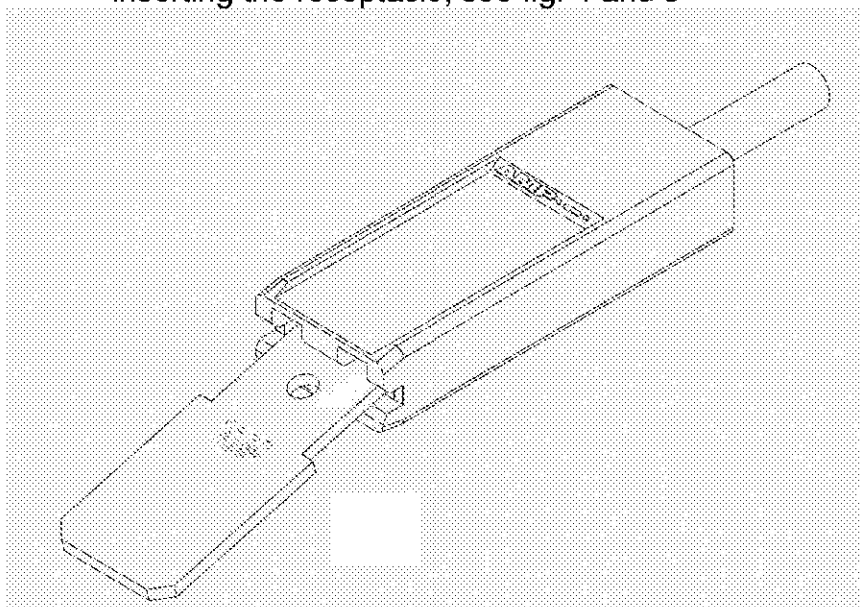
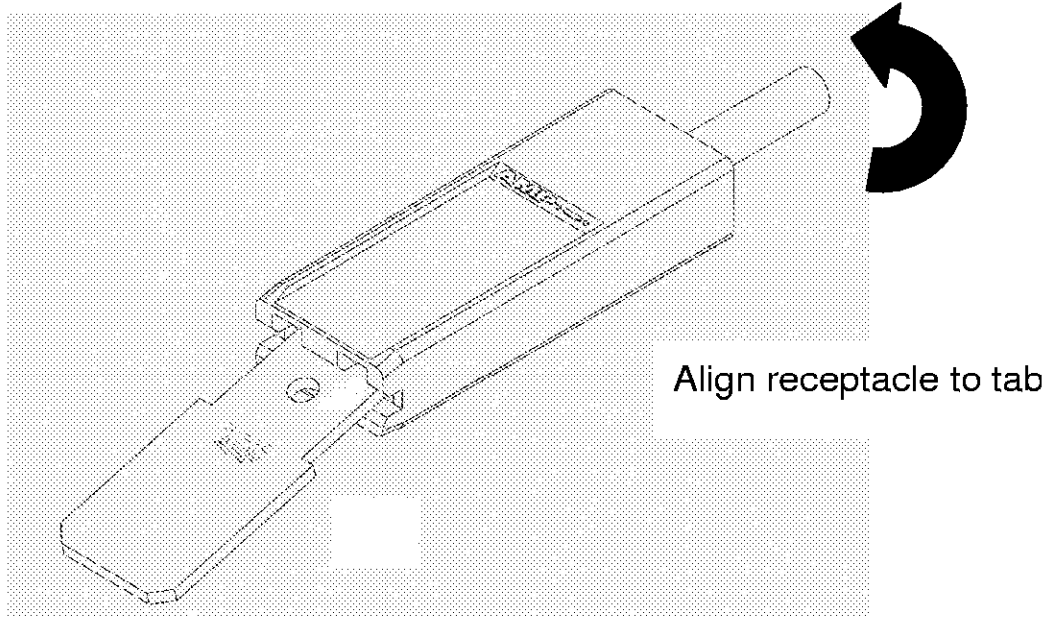

Fig. 3
Fig. 4
2.4. During connection operation, tendency to certain misalignment is usual, see fig 3. Before continue pushing, you must align receptacle and tab and continue inserting the receptacle, see fig. 4 and 5